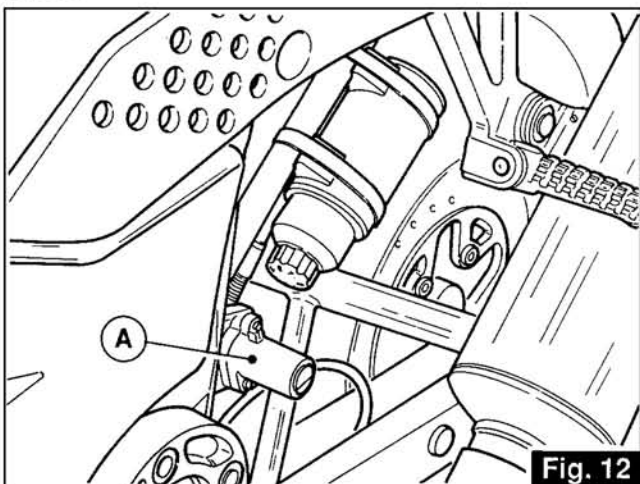

Fig. 12
3.16 DISPOSITIF PORTE-CASQUE (fig.12)
3.16 HELMHALTER (Abb. 12)